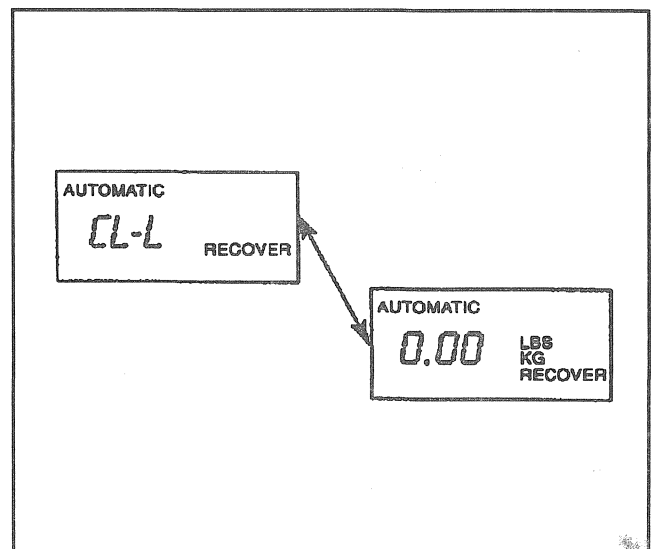

Figure 19—Refrigerant Recovery Display at Start
9. Press "RECOVER" on the key pad. Before recovery begins, the unit will clear itself of refrigerant "CL-L" will appear on the display. The clearing process takes from 30 seconds to 3 minutes to complete (Figure 19).